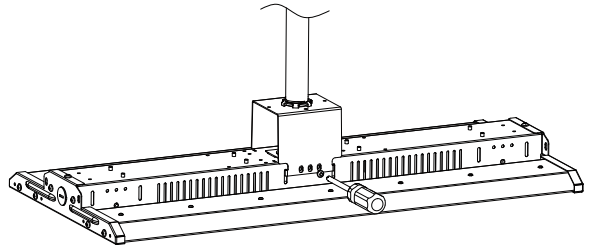

Figure 3
2. Lock the fixture onto the bracket (Figure 3).